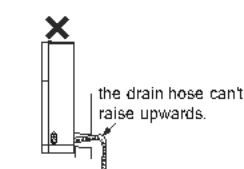

Fig.23
2. If the outdoor unit is higher than the wall hole, you must set a U-shaped curve in the pipe before pipe goes into the room, in order to prevent rain from getting into the room. (As show in Fig.23)
1. The through-wall height of drain hose shouldn't be higher than the outlet pipe hole of indoor unit.(As show in Fig.23)